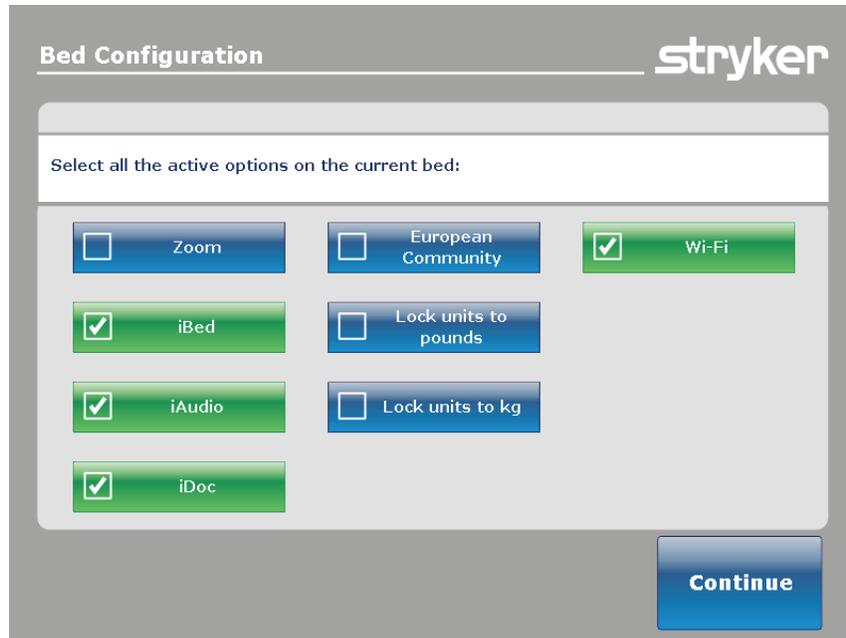

Figure 31 – Bed options screen
1. Press and hold the **HOB 30** button and the **BRAKE** button at the same time for 5 seconds, then release both buttons. The Bed Options screen will be displayed (Figure 31).
Note - The options selected are iBed, iAudio, iDoc and Wi-Fi (Figure 31). All of the options selected will turn green.